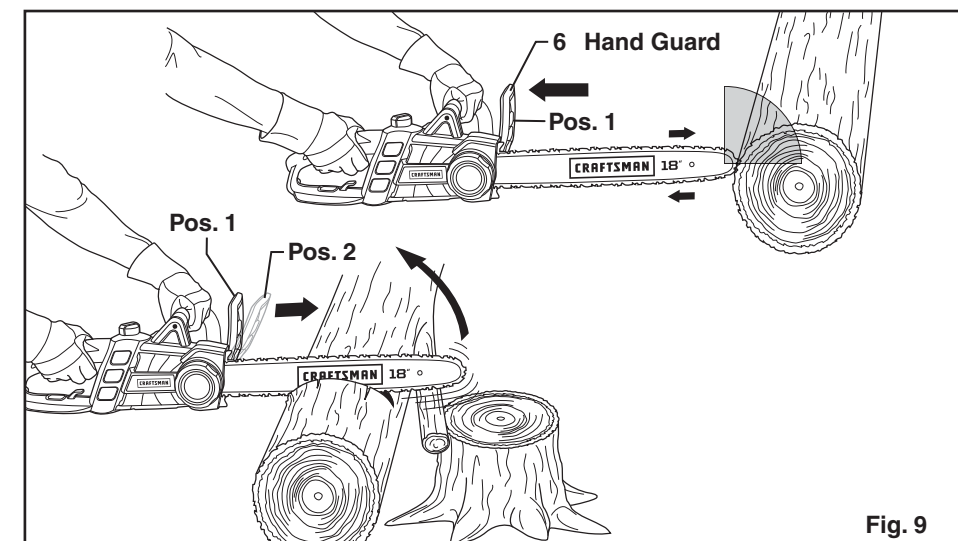

Fig. 9
1. **MANUAL CHAIN BRAKE** (See Fig. 9): **PUSH** front hand guard (6) forward (position 2) and try starting the chain saw. **The chain must not start.** To deactivate the kickback brake, pull hand guard (6) backwards (position 1), and release On/Off (trigger) switch (2), (See Fig. 8 for On/Off switch location).